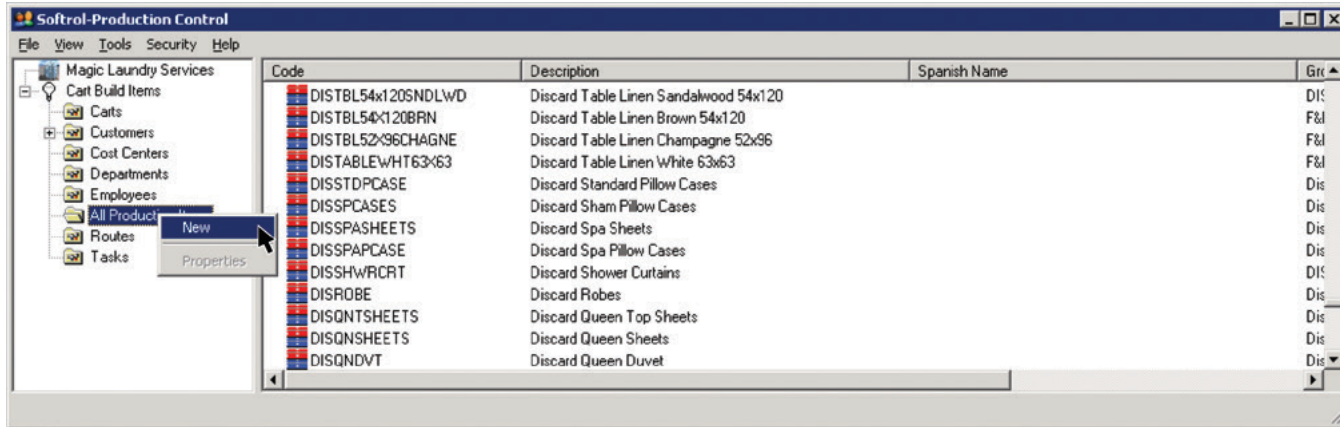

Figure 13. Right-click **All Production Items**, and select **New**.
2. Right-click the selected **All Production Items** (see Figure 13).